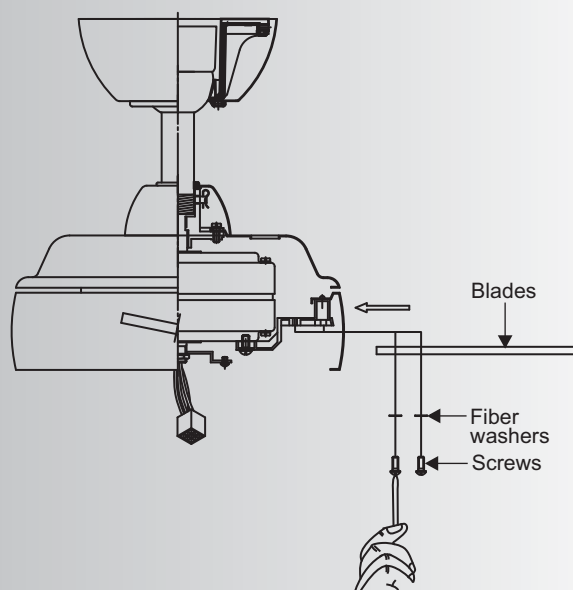

Fig. 14
Step 1. Insert the blade through the blade slot in the motor housing. Align the holes in blade and blade bracket, making sure the holes are also aligned and secure with the screws and fiber washers provided. (Fig. 14)